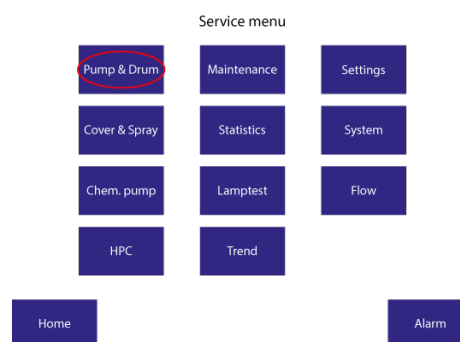
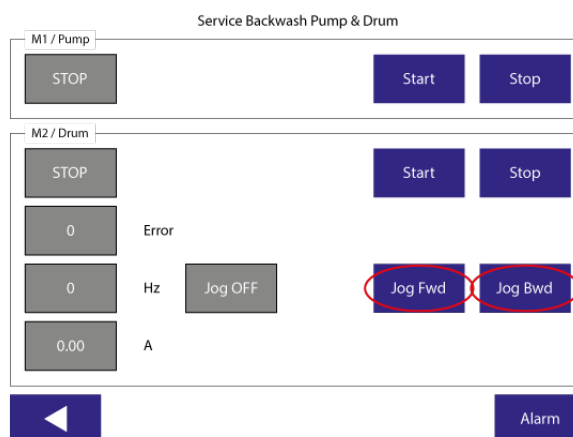
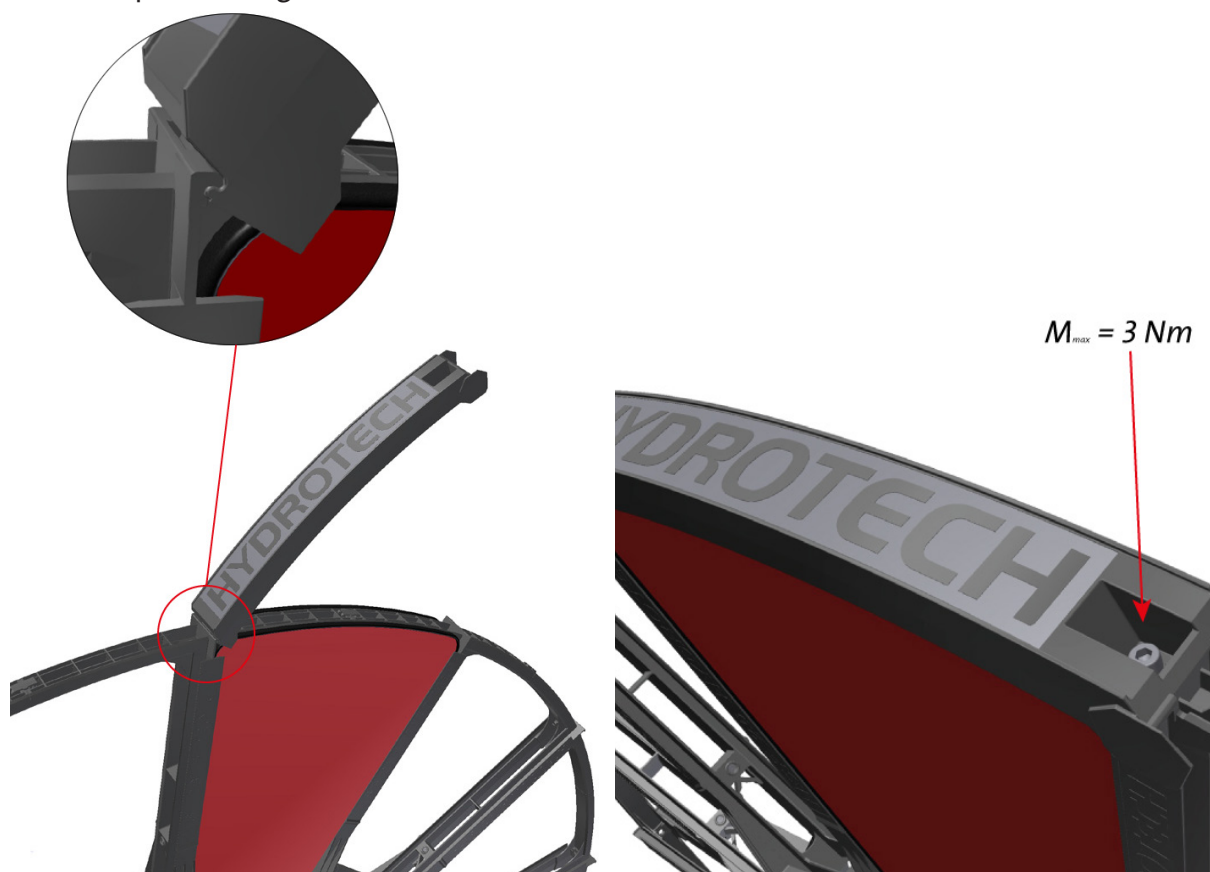

Figure 7.25 Service menu.
Figure 7.26 “Service Backwash Pump & Drum”- fönstret.
Figure 7.27 Installation of filter segment cover.
3. Select “Pump & Drum”, see Figure 7.25. Use the “Jog Fwd” and “Jog Bwd” buttons to set the drum in the desired mode, see Figure 7.26.
4. Turn the main power switch to the OFF (0) position and lock with a padlock.
5. Undo the filter segment cover screw and remove the cover, see Figure 7.27.
8. Re-fit the filter segment cover (see Figure 7.27) and tighten the screw.